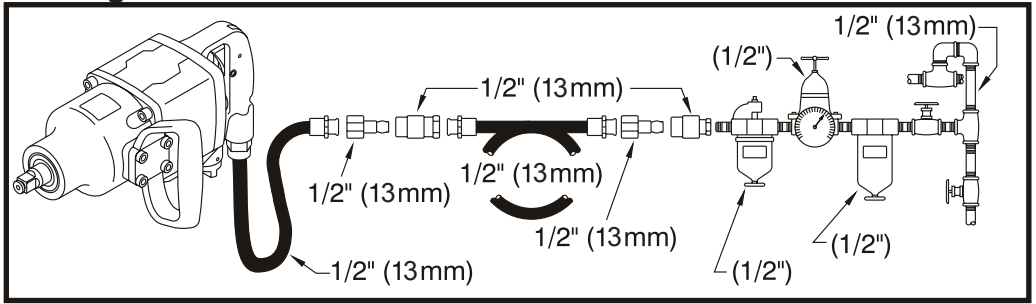
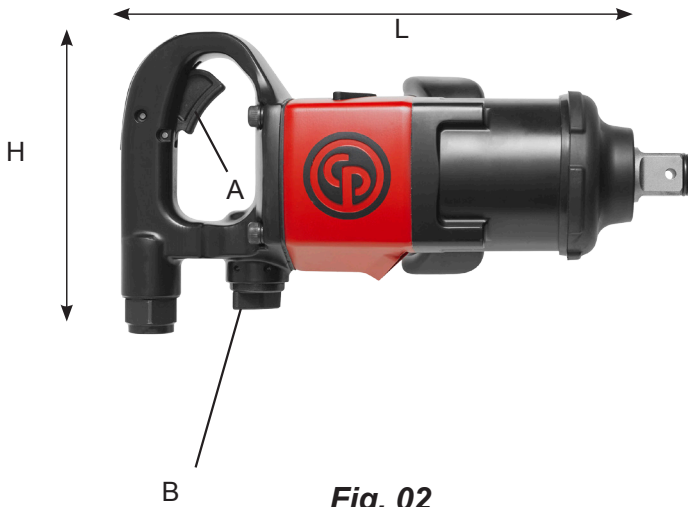

Fig. 01
Fig. 02
- Connect device as shown in Fig. 01 to a clean and dry air supply.
- To start the machine, pull the trigger (A). Machine speed is increase by increasing pressure on the trigger. Release the trigger to stop.
- To switch rotation, turn the switch (B) as shown in Fig. 02.
- Use the reverse switch (B) only when the drive spindle comes to a complete stop. Changing the speed before the drive spindle stops may damage the machine.
- To adjust output power, turn the regulator (B) as shown in Fig. 02.